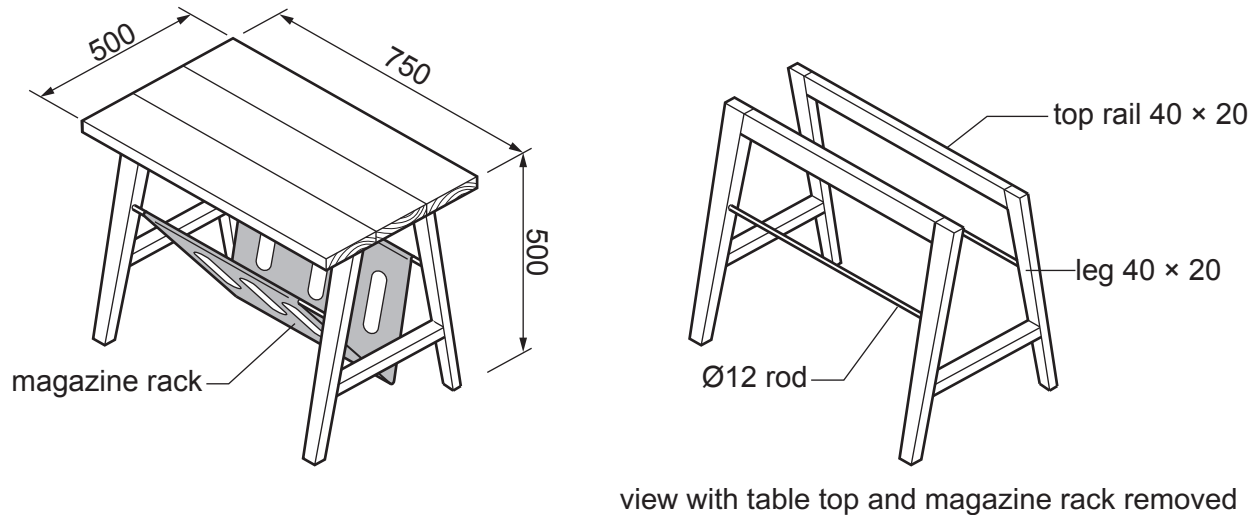

Fig. 11.1
- 11 Fig. 11.1 shows a table made from oak with a detachable magazine rack made from acrylic.